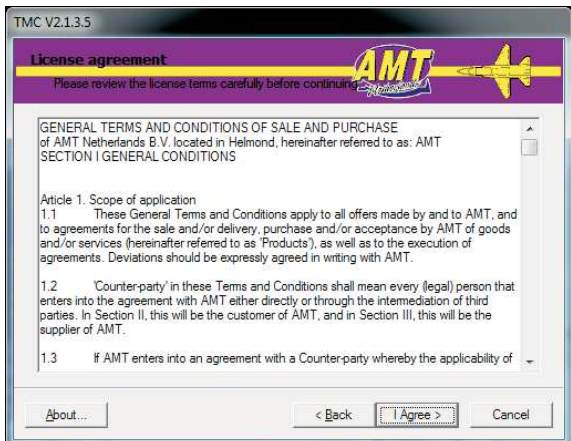

figure 8.2
5. Screen figure 8.2 will appear.